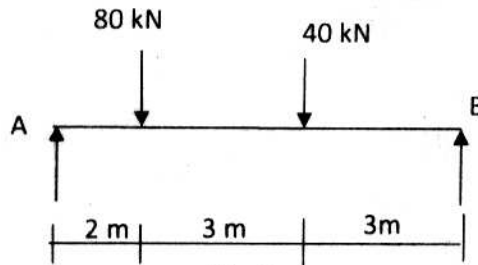

Fig. 7
- (c) Determine support reactions by virtual work method Refer fig. 7